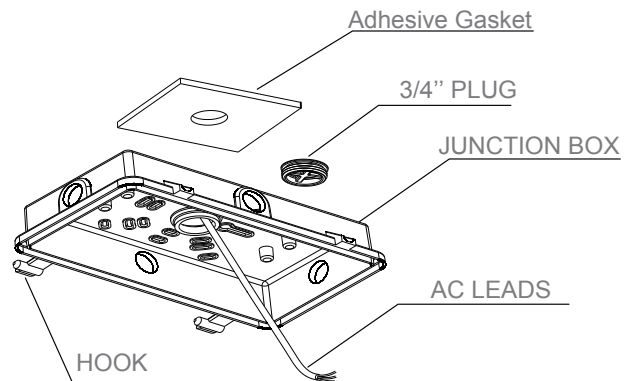

Figure 6
3. Remove the 3/4" Plug in the middle of Junction Box. Attach the supplied Adhesive Gasket on the back of Junction Box. Make sure these holes are aimed. See Figure 6.
4. Fasten the Junction Box to a Wall with Hardwares (not supplied). See Figure 6.
5. Hung the Luminaire on the Hook of Junction Box. See Figure 6 and 7.